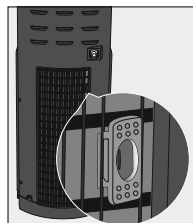

Figure 12
- Connect 1/4 inch water line from the mains water connection to the filter inlet connection (not shown) through the rubber insert on condenser (from back) (Figure 12).